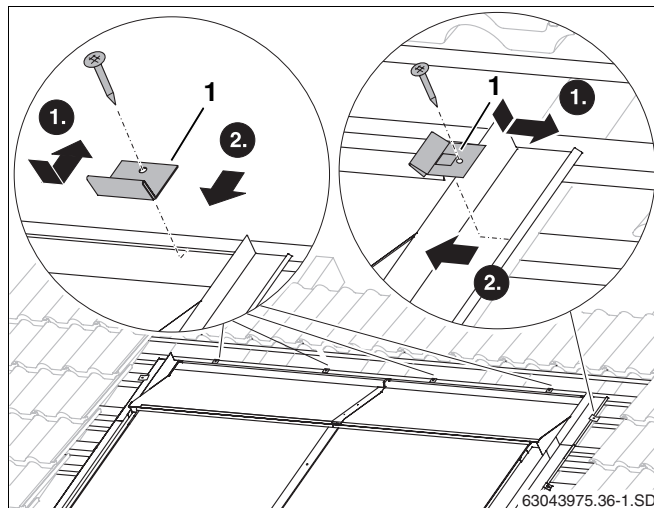

Fig. 60 Fastening upper facing collectors with clips
- Insert clip (Fig. 60, **Item 1**) into the edge of the facing collector.